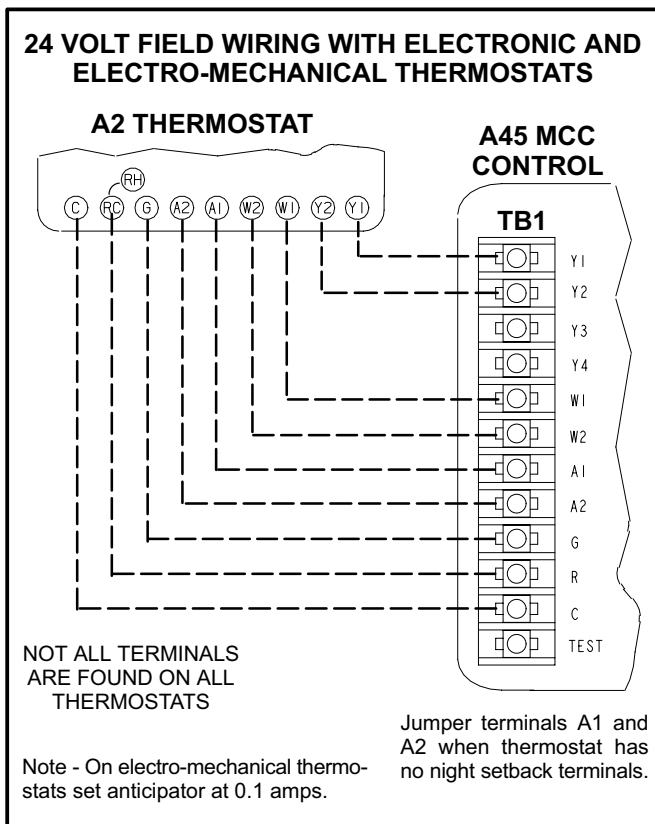

FIGURE 7
- 3- Connect thermostat wiring to TB1 terminal on MCC (A45) control board as shown in figure 7 for electro-mechanical and electronic thermostats. If using other temperature control devices or energy management systems see instructions and wiring diagram provided by manufacturer.